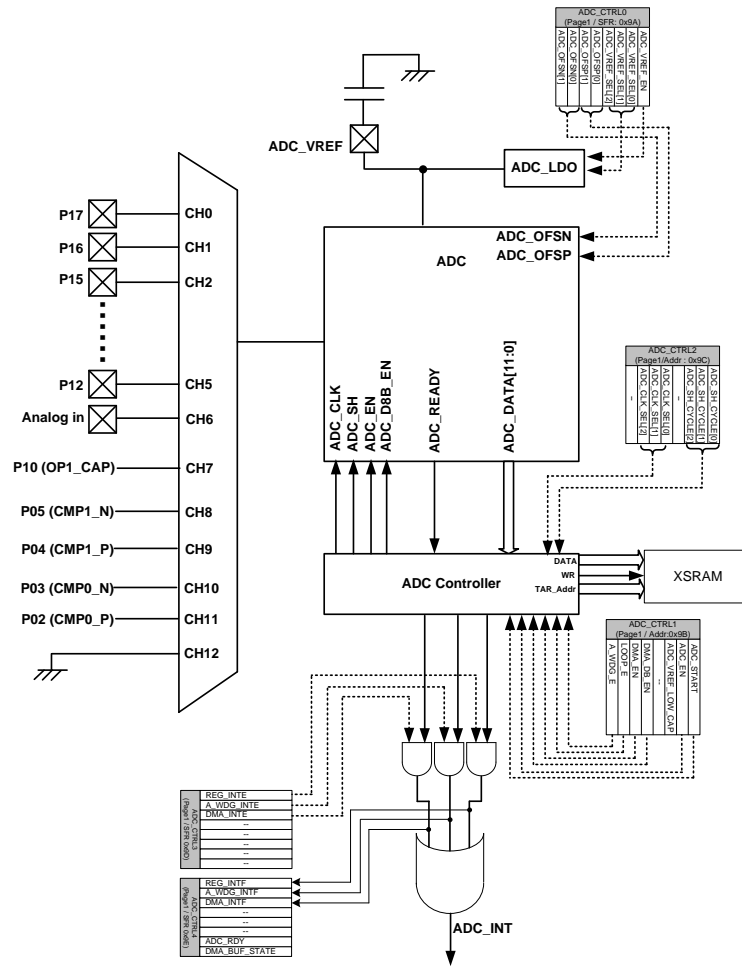
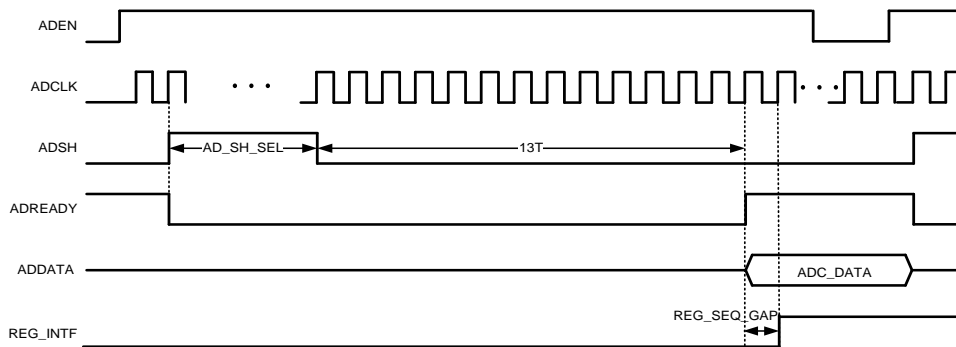

Figure 5-49 ADC Control block
Figure 5-50 ADC conversion waveform
Total of 13 channels of 12-bit SAR ADC per set are built in GPM8F3331B. These thirteen channels are very suitable for system voltage detection and other general-purpose usages. Figure 5-49 shows the ADC control block. The ADC_CLK that divided by a pre-scaler and it must not exceed 18 MHz. The ADC_CLK is synchronous with the system clock. The one ADC conversion time include 3 parts, ADC sample hold (SH) time, conversion time (ADC clock 13T) and REG_SEQ_GAP, the detail waveform see the Figure 5-50.